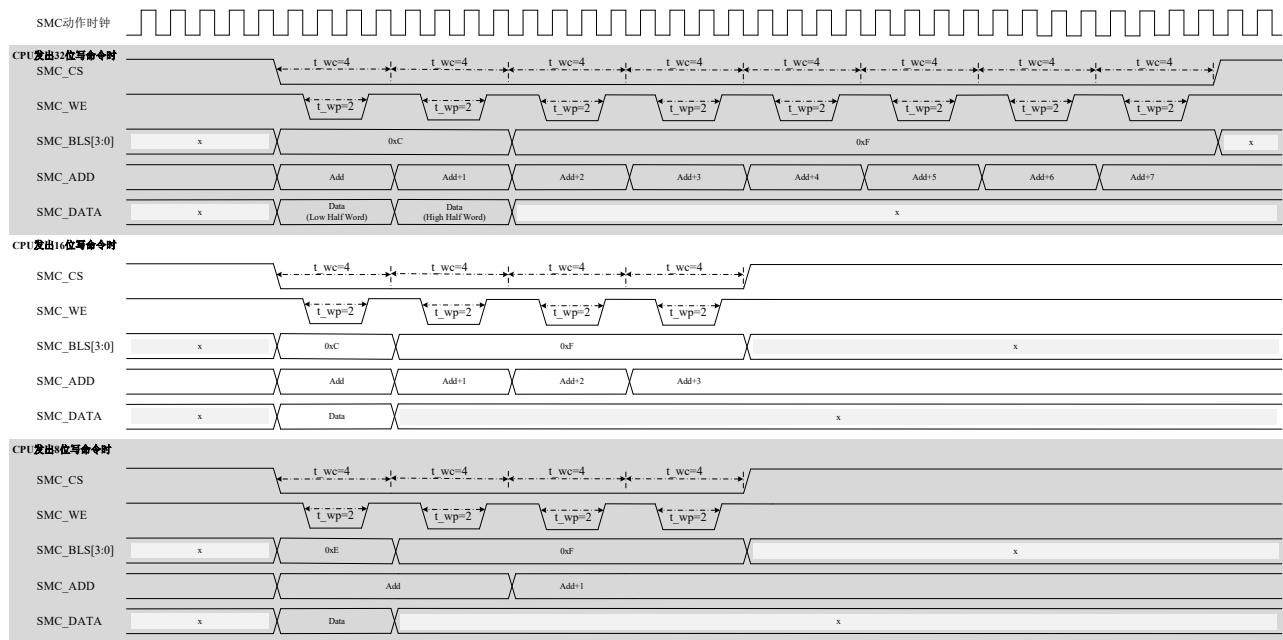
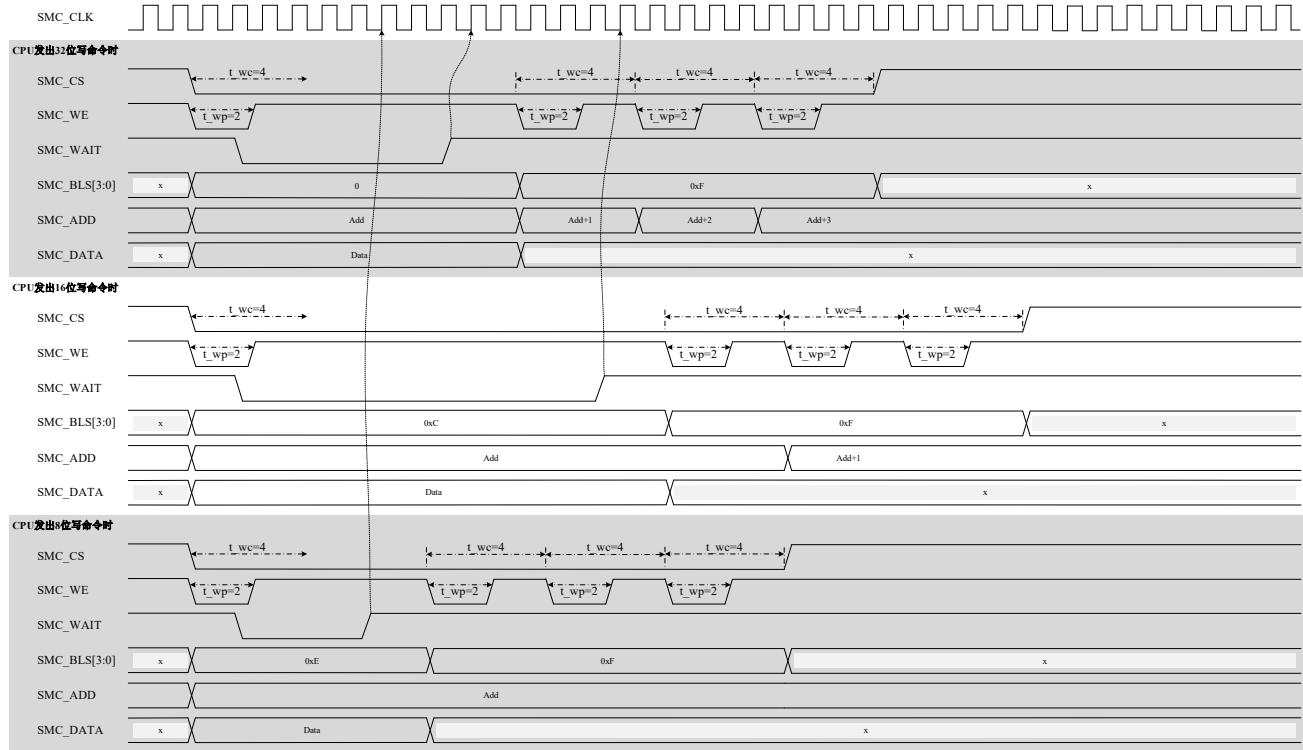

Figure 40-14 Basic timing of single write operation (asynchronous mode (WSYN=0) & 16-bit width (MW=01) & BLS=0)
Figure 40-17 Basic timing of single write operation (synchronous mode (WSYN=1) & 32-bit bit width (MW=10) & BLS=0)
- c) Table 40-9 and Figure 40-14 ~Figure 40-17 is the basic timing chart and setting example of a single write operation.